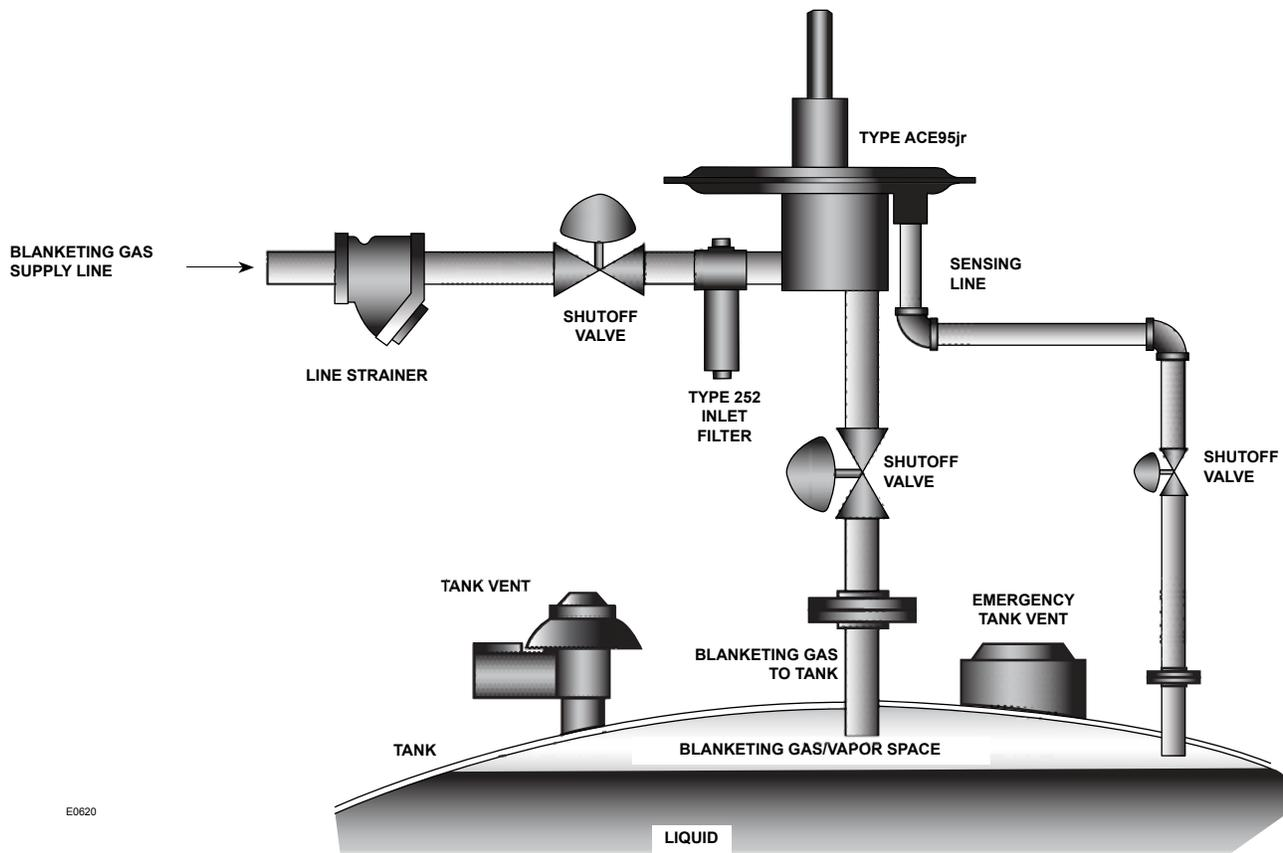

Figure 3. Type ACE95jr Tank Blanketing Valve Installation
4. The valve must be mounted so the actuator case is horizontal, as shown in Figure 3. The valve should be mounted above the tank. Three connections are required: a) blanketing gas supply to valve, b) valve outlet to tank and c) sensing line to tank.
1. Open shutoff valves between the blanketing valve and the tank (both sensing and outlet). See Figure 3.
Installation arrangements vary, but in any installation it is important to open and close valves slowly. When shutting down the system, close the upstream supply shutoff valve first. Refer to Figure 3.